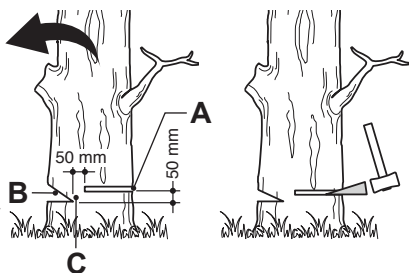

Fig. 38
Make the notch (Fig. 38, B) 1/3 the diameter of the tree, perpendicular to the direction of falls (Fig. 38). Make the lower horizontal notching cut first. This will help to avoid pinching either the saw chain or the guide bar when the second notch is being made.
- > Make the felling back cut (Fig. 38, A) at least 50 mm higher than the horizontal notching cut (Fig. 38). Keep the felling back cut parallel to the horizontal notching cut. Make the felling back cut so enough wood is left to act as a hinge. The hinge (Fig. 38, C) wood keeps the tree from twisting and falling in the wrong direction. Do not cut through the hinge.